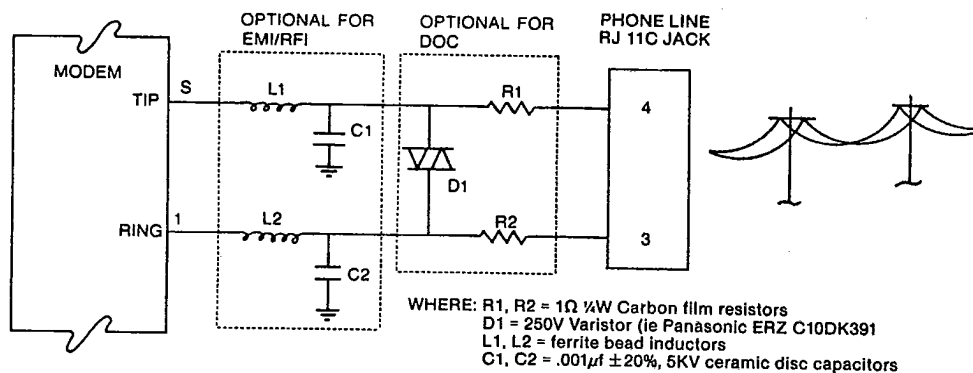

Figure 1. Telephone Line Interface
- 3) Connection to the phone line should be made through an RJ-11C jack as shown in Figure 1.
- 6) No additional circuitry other than that shown in Figure 1 may be connected between the modem module and phone line's RJ-11C jack.
The modem module meets the high voltage and transient requirements of the FCC which governs U.S. phone lines. For applications that connect to Canadian phone lines, governed by the DOC (Department of Communications), a higher level of transient protection is required, thereby making the two resistor and one varistor circuits (R1, R2 and D1 in Figure 1) mandatory. Adding these three devices will not affect FCC registration and so are optional for U.S. only applications.